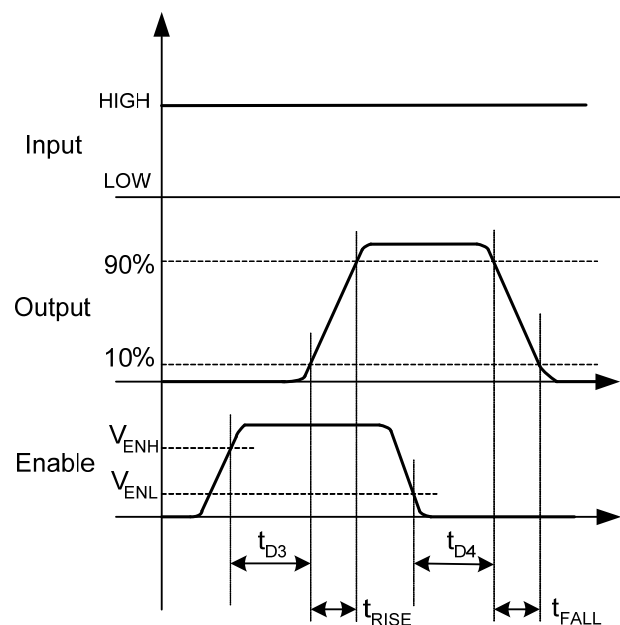
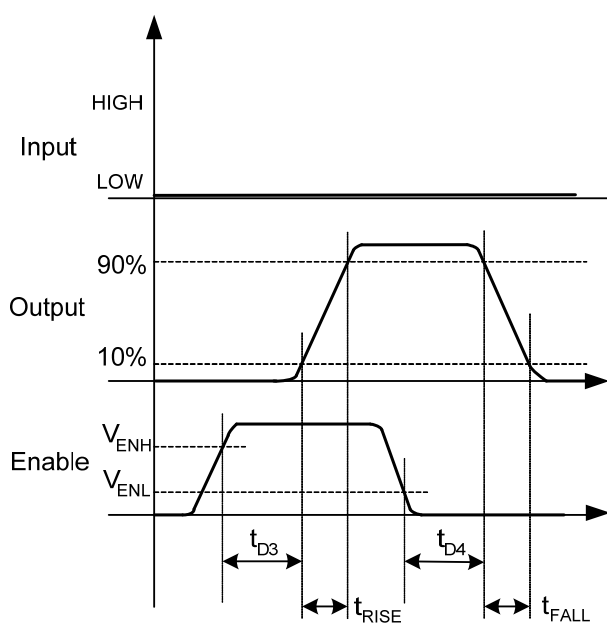

Figure 11. Non-Inverting (IN HIGH)
Figure 12. Inverting (IN LOW)
12. See Timing Diagrams of Figure 11 and Figure 12.